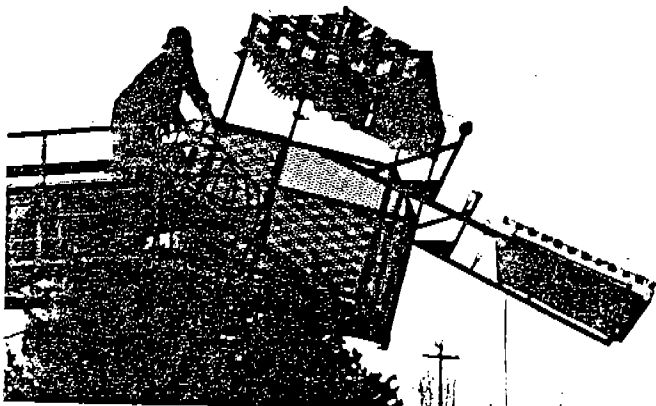

Fig. 25
- (1) Fit the holes in the sign ears over the pins on the bottom cross support bar. Snap key the pins.
- (2) Plug in sign to receptacle.
- c. Using the winch, slowly crank the sign up into position. (Fig. 25)